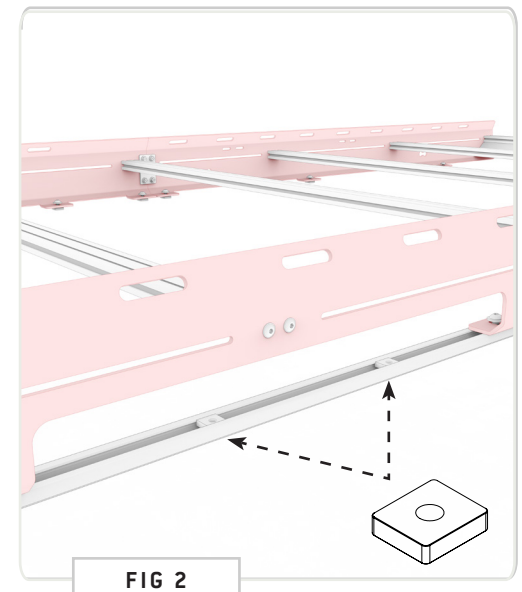

FIG 2
PRO-TIP: If you're installing a side ladder, put two (2) extra rail nuts in on the driver side (FIG 2).